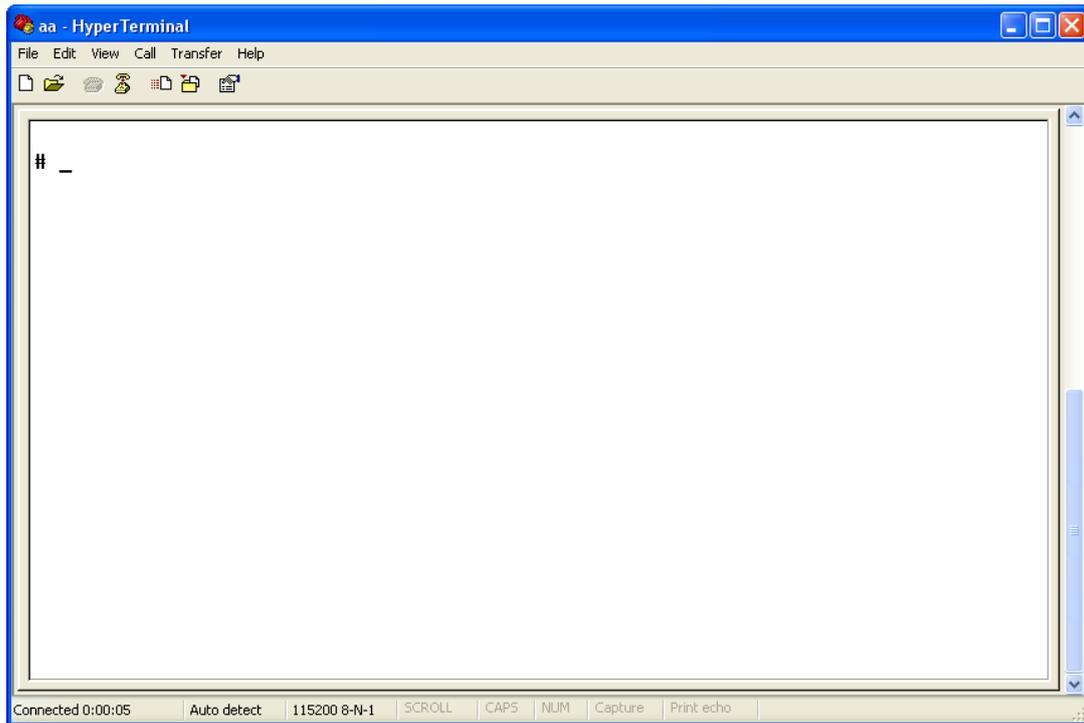

Fig. 3.4 Hyper Terminal Interface
**Step 4**: Serial port parameters setup. Set the serial port parameters as the following setup: Bits per second: 115200, Data bits: 8, Parity: None, Stop bits: 1, Flow control: None. Press “OK” after finish, the Hyper Terminal interface like Fig. 3.4 will appear
**Step 1:** Enter into the Hyper Terminal. Click “Start”→ “Programs”→ “Accessories”→ “Communications”→ “Hyper Terminal”→ “aa.ht”, the Hyper Terminal interface in Fig. 3.4 will appear.